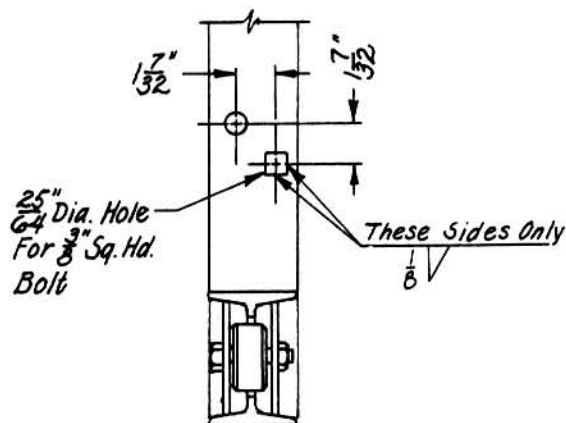
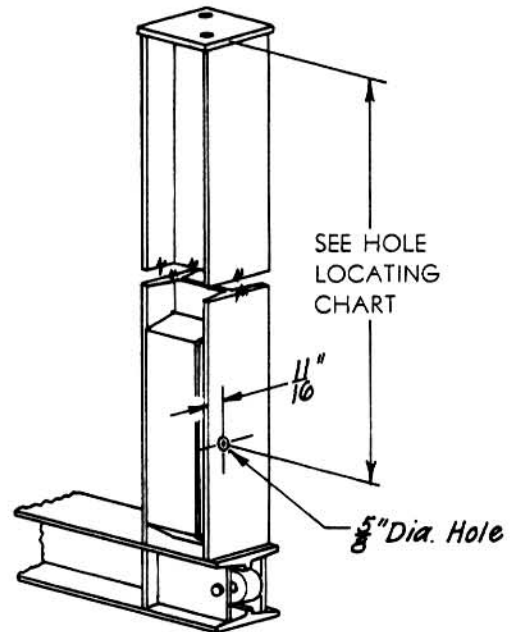

FIGURE 2
FIGURE 1
2. Measure from top plate on each beam, see Fig. 1 and hole locating chart for proper hole location. Layout hole pattern per Fig. 2 on outside flanges of beams. Using square layout hole for 5/8" dia. hole for inside beam flange. Drill 25/64" dia. hole thru (1) flange.